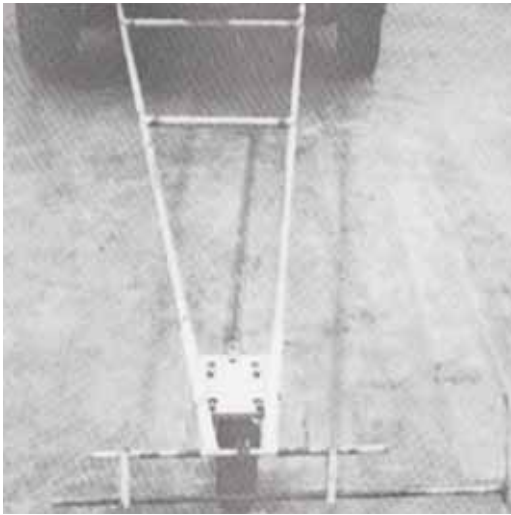
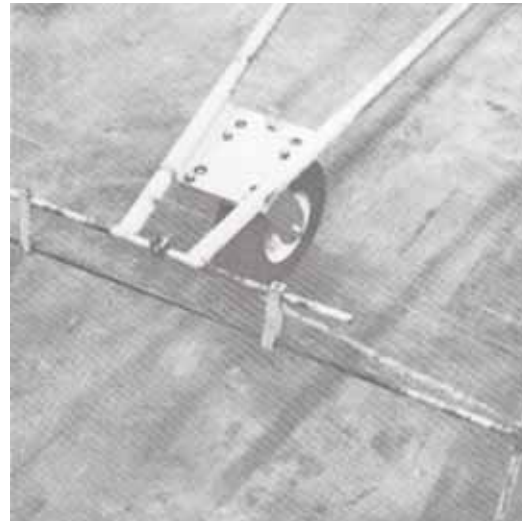

Figure 31
Figure 33
R. Attach the pointer assembly to the front bumper as shown in Figure 31. First, attach the pointer bracket to the bumper with “C” clamps as shown in Figure 32. Place the pointer arms into the bracket as shown, run the rod through the holes provided. Secure the ends with cotter pins. The pointer can be removed at any time by pulling the cotter pins and rod. The pointer shown in Figure 33 has horizontal and vertical adjustments available to line up the HTA properly.